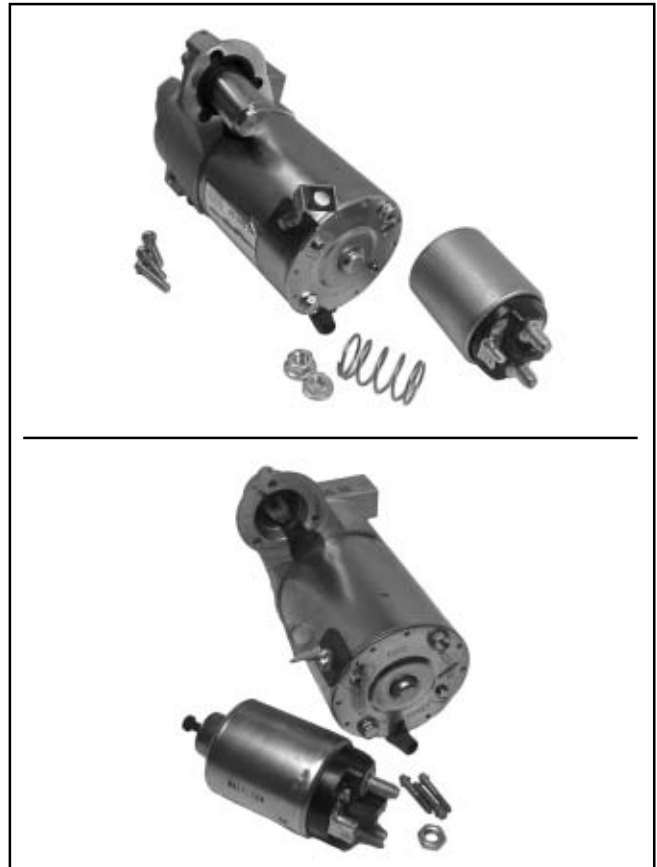

Figure 8-42. Solenoid Removed from Starter.
3. If the solenoid was mounted with Phillips head screws, separate the solenoid and plunger spring from the drive end cap. If the solenoid was mounted with external Torx head screws, the plunger is part of the solenoid, unhook the plunger pin from the drive lever. Remove the gasket from the recess in the housing. See Figures 8-42 and 8-43.